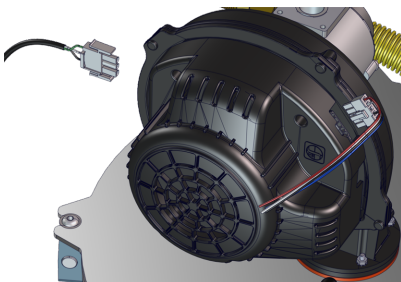

Figure 57 *Fan connectors*
8. Unplug the two connectors from the front and back of the fan (see Figure 57).